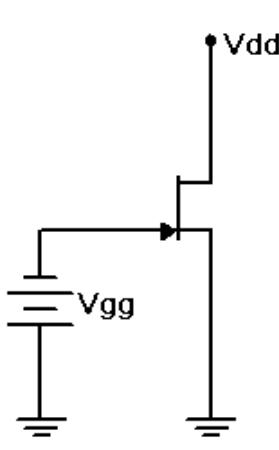

Figure 1
1. Consider the circuit of Figure 1 using $V_{dd} = 15$ volts and $V_{gg} = 0$ volts. With nothing else in the circuit, the resulting drain current should equal I_{DSS} . Similarly, if V_{gg} is gradually changed to a value negative enough to drop the drain current to zero, V_{gg} must be equal to $V_{GS(OFF)}$.
- Build the circuit of Figure 1 using $V_{dd} = 15$ volts and $V_{gg} = 0$ volts. Insert an ammeter in the drain and record the resulting current in Table 1. Slowly increase the magnitude of V_{gg} (i.e., make it more negative) until the drain current drops to zero (as a practical point, try to get it under $10 \mu A$, or as low as the ammeter will allow). Record this voltage in Table 1. Repeat this process for the other two transistors. Be sure not to confuse the JFETs. Keep them in order.